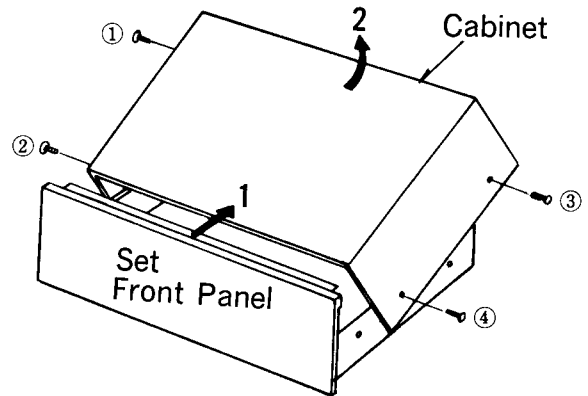

Fig. 1
1. Remove four (4) cabinet-mounting screws, nos. ①~④ as shown in Fig. 1.
2. Remove cabinet from chassis in arrow direction 1 to 2, as shown in Fig. 1: